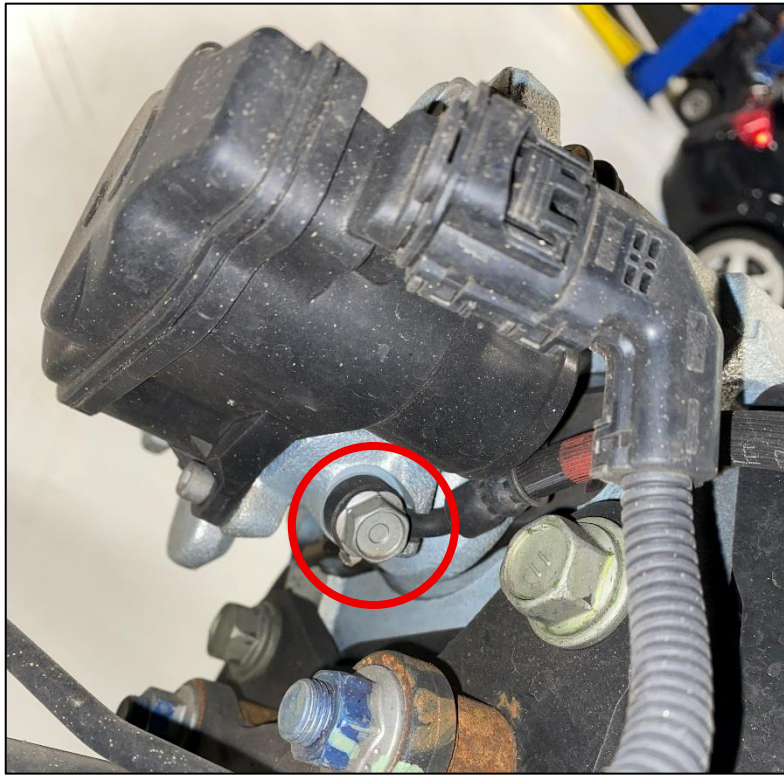

Figure 9
1. Remove the OE Banjo Bolt and Brake Line from the Rear Caliper. Brake Fluid will leak out, so prepare a bucket and rags. Clean any spilled Brake Fluid on painted surfaces immediately to prevent damage. Take note of the orientation of the Banjo Fitting on the OE Brake Line as it will need to match the new Brake Line for proper fitment. *Figure 9*.